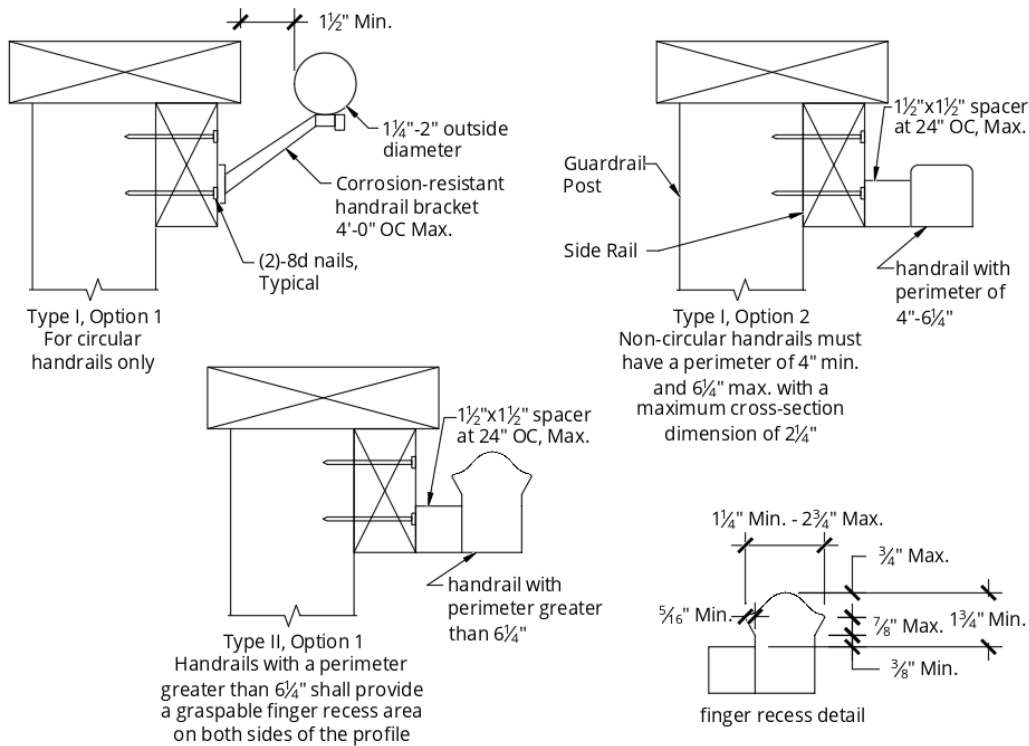

FIGURE 37- HANDRAILS AND GRASPABILITY
- Handrails shall have a smooth surface with no sharp corners and shall be graspable. Recessed sections may be shaped from a 2x6, or five-quarter board as shown in Figure 37.